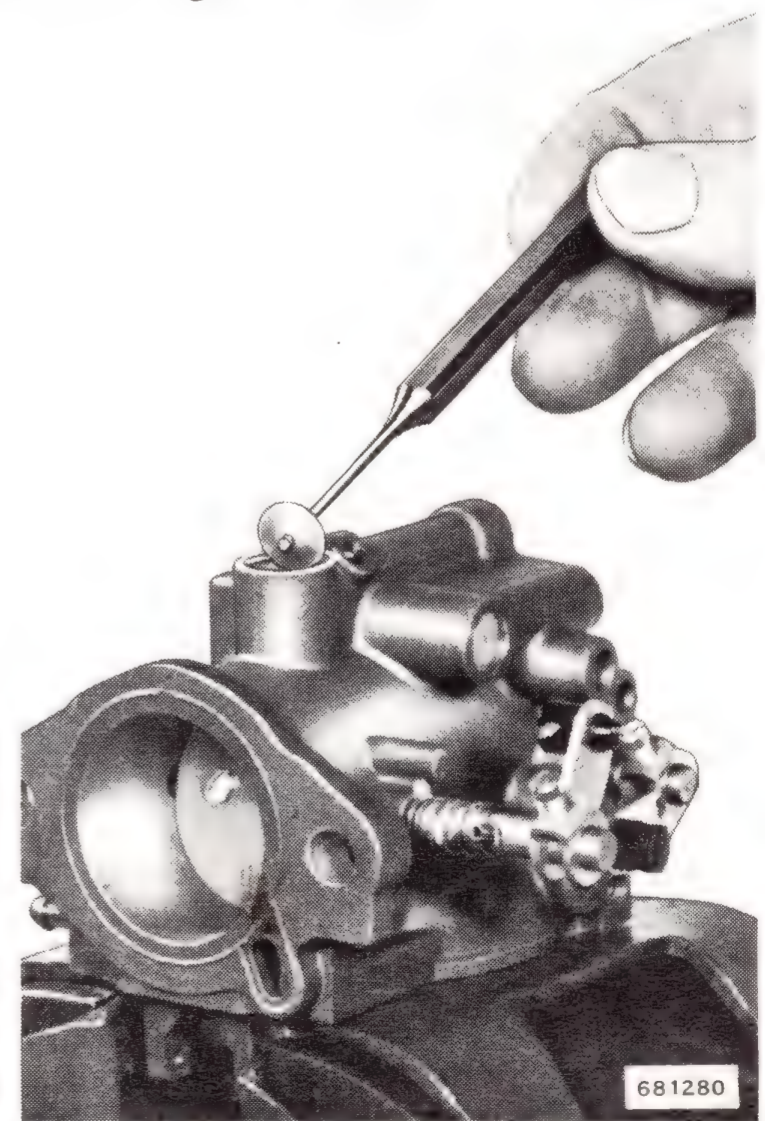

Figure 3-16. Removing Core Plug
b. If leakage persists, drill a 1/8 inch hole through the center of the core plug to a depth of not more than 1/16 inch below its surface. With a punch carefully pry out the core plug. See Figure 3-16.